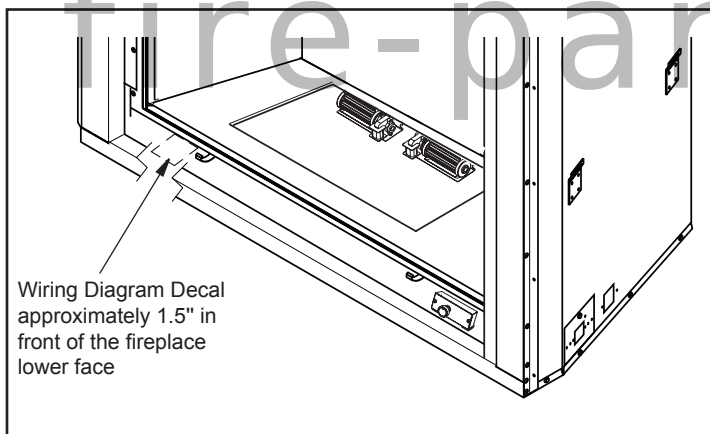

Figure 9: Location of Wiring Diagram Decal
6. Peel off the backing paper and stick the supplied wiring diagram decal on the left fireplace bottom approximately 1.5" in front of the fireplace lower face (see Figure 9).